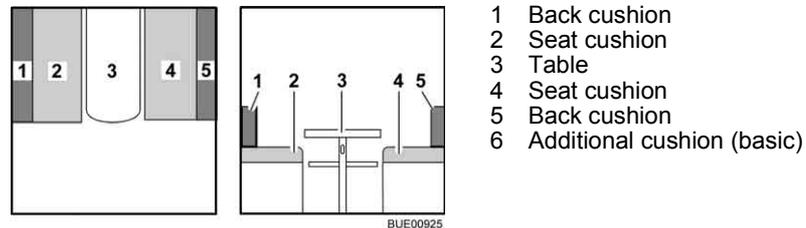

Fig. 95 Prior to conversion
- Convert the table (Fig. 95,3) to a bed foundation (see section 6.12).